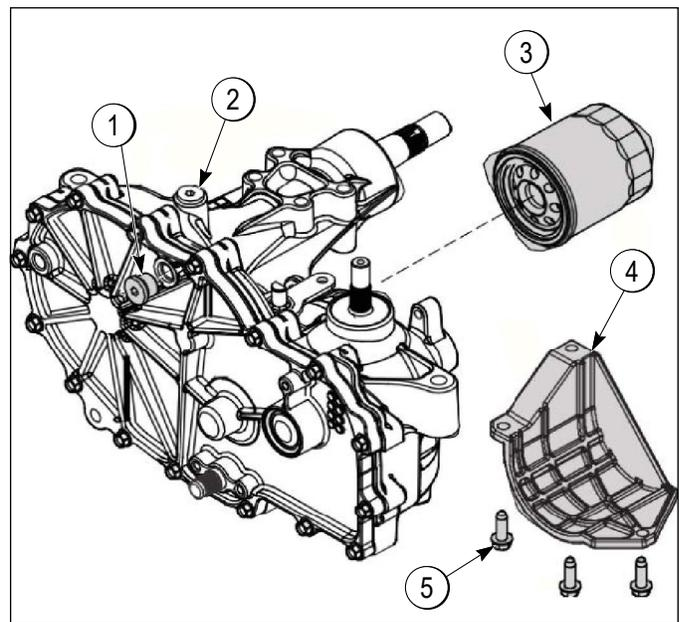
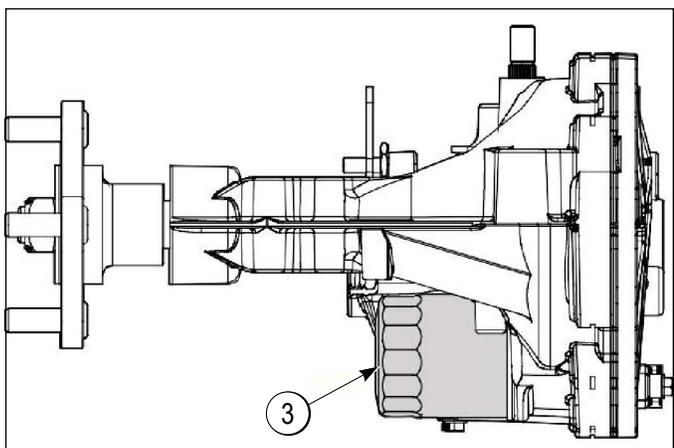

Figure 6-1
Figure 6-2
2. Remove the three 1/4 in filter guard screws (5) and filter guard (4). Clean any loose debris from around the perimeter of the filter. See Figure 6-1 and Figure 6-2.
6. Install the filter guard (4) with three 1/4 in screws (5). Torque screws to 65 in-lb (7.3 N•m) each.
9. Remove the top port plug (1) from the left side and right side transaxles prior to filling with oil. This will allow the transaxles to vent during oil fill.
- NOTE:** For units that do not have an external expansion tank, remove the fill port plug (2) on the top of the housing. See Figure 6-1.
11. Fill with 20W-50 motor oil until oil just appears at the bottom of each transaxle top port plug (1) (approximately 2 qt. per transaxle, 4 qt. total). Install the top port plug (1) into each transaxle as the oil level reaches this port.
NOTE: For units that do not have an external expansion tank, replace the fill port plug (2) on the top of the housing (see Figure 6-1), torque to 120 in-lb (20.3 N•m), and proceed to the purge procedure.